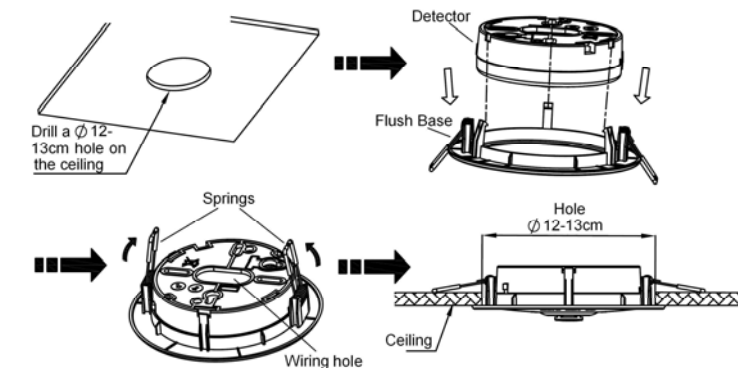

Fig.1 Three mounting options
- Install the detector according to the instruction in Fig. 1.